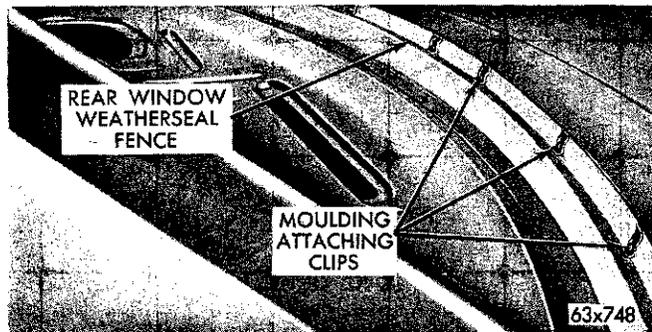

Fig. 62—Rear Window Moulding Attaching Clips
- (1) Inspect the rear window fence to be certain it is clean, smooth and straight and the moulding clips are correctly positioned (Fig. 62).